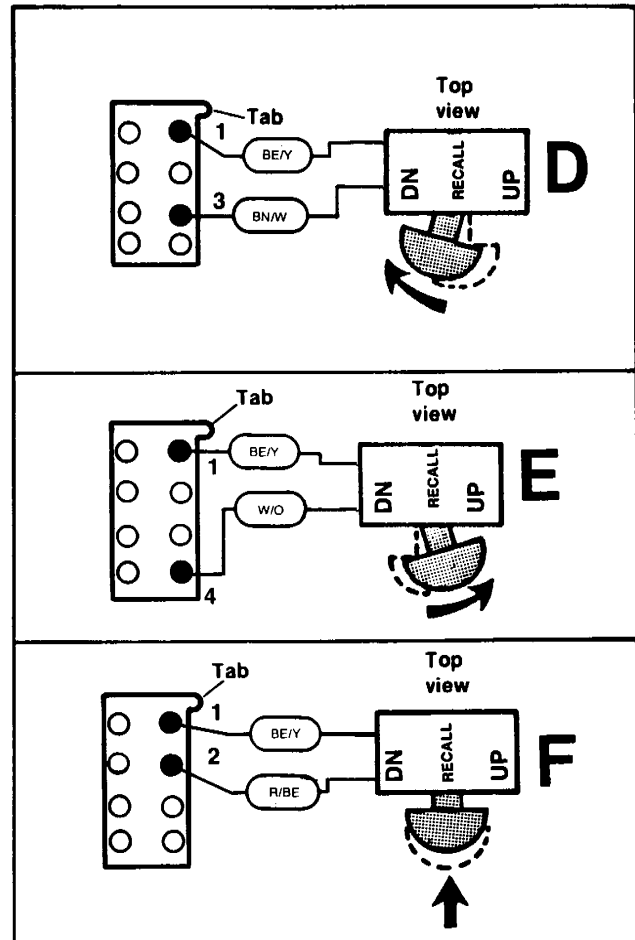

Figure 2-131. Volume Switch Test
4. Refer to Figure 2-131, View D. Place ohmmeter probes on connector pins (1) and (3), and move volume control knob to position shown (DN position). Meter should
5. Refer to Figure 2-131, View E. Place ohmmeter probes on connector pins (1) and (4), and move volume control knob to position shown (UP position). Meter should show approximately zero ohms. Leave probes on pins (1) and (4), and move control knob to DN position. Meter should read infinite ohms. Release knob (let it return to center position). The meter should still read infinite ohms. If meter readings vary significantly from these values, check wiring and switch.
6. Refer to Figure 2-131, View F. Place ohmmeter probes on connector pins (1) and (2), and push knob in as shown (RECALL position). Meter should show approximately zero ohms. Leave probes on pins (1) and (2), and release knob. Ohmmeter should show infinite ohms. If meter readings vary significantly from these values, check wiring and switch.